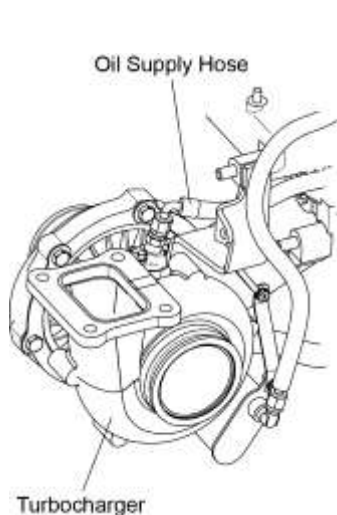

Figure 4
G. Disconnect the oil supply hose (Figure 4) from the turbocharger.
- H. Connect the oil supply hose (Figure 4) to the turbocharger.